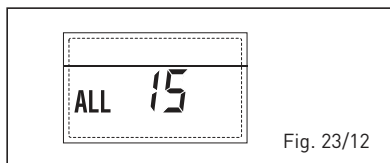

Fig. 23/12
– **ANOMALIA Sonda ESTERNA “ LAMPEGGIANTE”** (fig. 23/13)